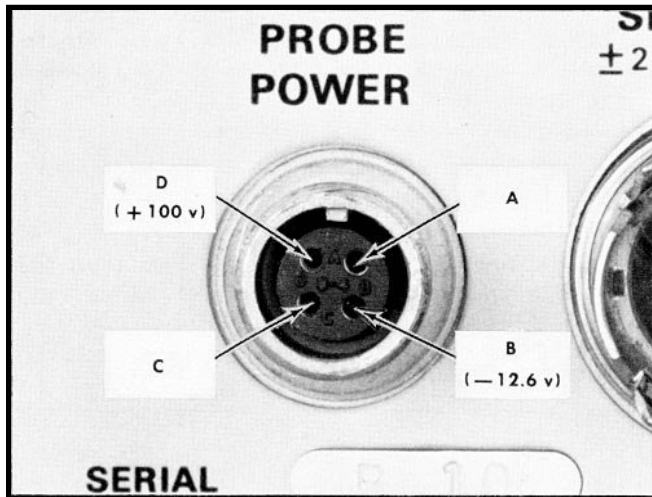

Fig. 5-5. Terminal lettering of PROBE POWER connector as seen from the front of the instrument.
a. Load the PROBE POWER filament circuit either by connecting a cathode-fol lower probe to the PROBE POWER connector, or by connecting a 70-ohm 5-watt resistor from pin B of the connector to ground (pin A or C). See Fig. 5-5 for the PROBE POWER connector lettering. If the resistor is used to load the circuit, turn off the indicator oscilloscope power momentarily while installing the resistor.